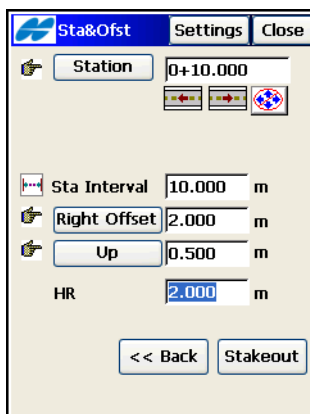

Figure 9-22. Station &amp; Offsets
3. In the *Sta&Ofst* (Station & Offsets) screen, set the station along the line being staked, the station staking interval, the right or left offset of the stakeout point with respect to the line, the *Up* or *Down Height* offset, the *height* and the *type* of the antenna height (GPS mode), or the height of the rod (target) (TS mode). If the number of subdivisions has been selected, the station interval is automatically computed and cannot be changed (Figure 9-22).